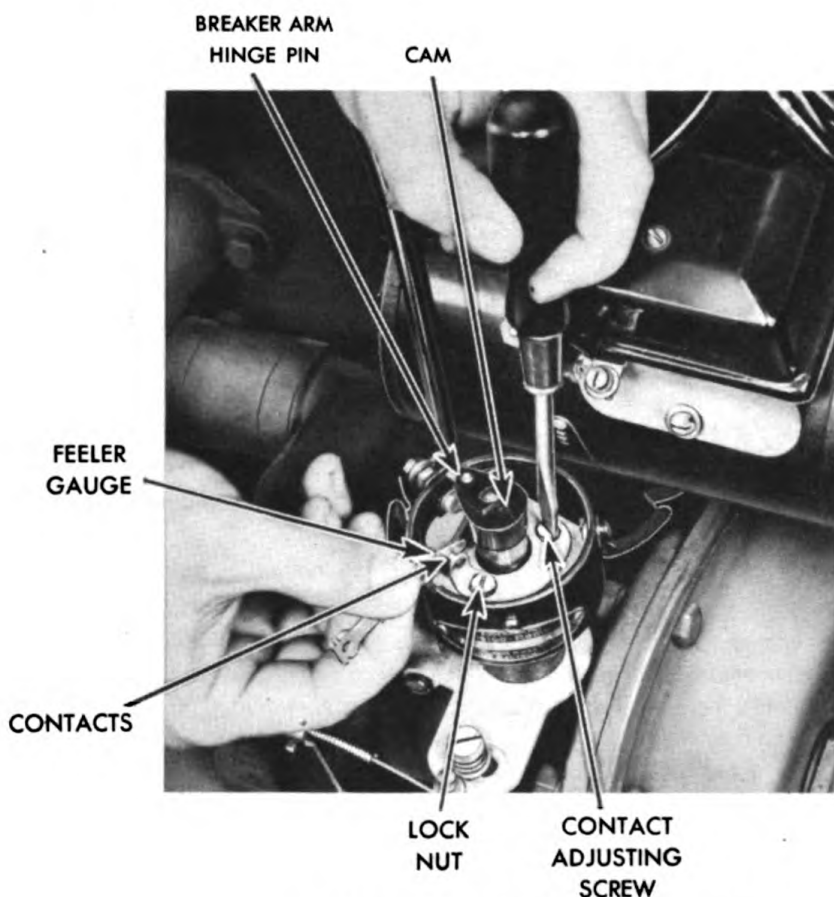

Figure 48. Distributor adjustments.
Every 512 hours, add one drop only of OE-10 to the breaker arm hinge pin and saturate the felt in the top of the cam with OE-10. Add one drop of OE-10 to each governor weight pivot and slot. Do not over-lubricate. Apply sparingly WB-3 to the breaker cam. Be careful not to get oil or grease on the cap and rotor or breaker contacts as oil or dirt materially shorten their life. See figure 48.
If the contacts are a grayish color and are not burned or pitted, they need not be replaced. Check with a feeler gauge the breaker contact gap. This gap should be .021" plus or minus .003". Readjust if necessary. See figure 48. After adjusting, retighten the locknut as shown in figure 48. Then recheck the gap. Check the contact point alignment. The contacts should be aligned so as to make contact near the center of the contact surfaces. Bend the stationary contact bracket to secure proper alignment. Then recheck the maximum gap as just given above.
2. Remove the distributor cap from the distributor (see figure 48) and loosen the clamp screw and locknut of the distributor advance arm. Turn the body of the distributor in the opposite direction of the distributor cam rotation just until the points begin to open. Tighten the clamp screw and locknut in the advance arm. See figure 48. NOTE: Advance arm should be left in full manual advance position.